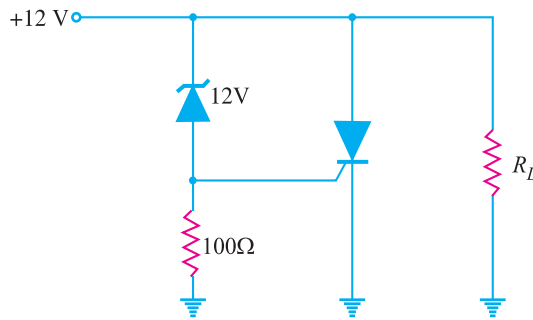

Fig. 20.27
**Example. 20.14.** The zener diode of Fig. 20.27 has a tolerance of  $\pm 10\%$  and the trigger voltage can be as high as 1.5V. What is the maximum supply voltage where crowbaring takes place?